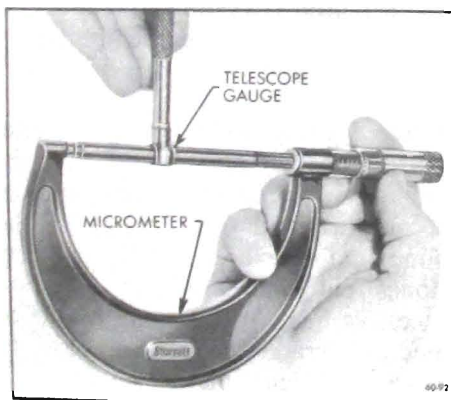

Figure 60-234 Measuring Telescope Gauge
2. Measure the telescope gage. See Figure 60-234.